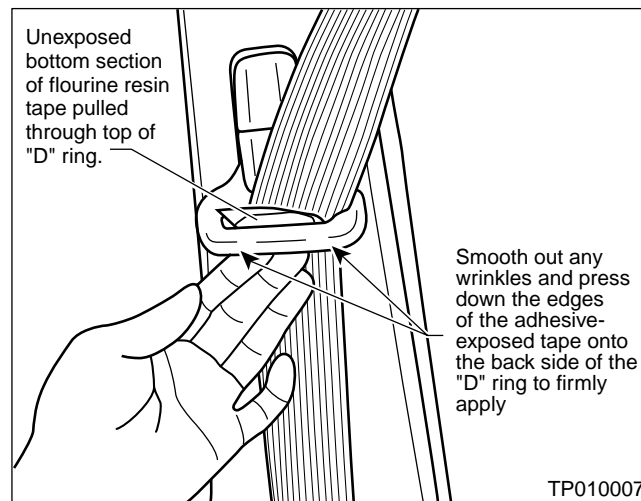

Figure 7
8. As the top section of the adhesive-exposed tape rolls up to the "D" ring, center and smooth the tape around the back side of the "D" ring (see Figure 6B above and Figure 7 on page 5).
9. Run your finger over the surface of the newly applied tape to firmly apply it to the back side of the "D" ring, press down the edges of the tape, and smooth out any air bubbles or wrinkles (see Figure 7).